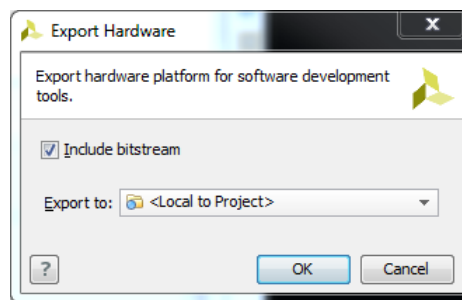

Figure 35: Export Hardware Dialog Box
2. In Export Hardware dialog box, select **Include bitstream** check box, shown in Figure 35. Make sure that the **Export to** field is set to **<Local to Project>**.